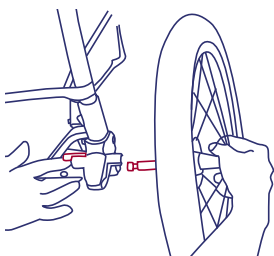

Figure 8.
- Lean the stroller forward to rest on the front wheel. To attach the rear wheels, push each wheel's axle into the plastic corner fitting as shown in figure 8. Lift upward on the plastic lever on the inside of the corner fitting as you push the axle into corner fitting. When the wheel will not go on any farther, release the lever. Check that the wheel has locked into the corner fitting by pulling on the wheel. If not locked, lift upward on the lever, push the wheel on farther and release lever.